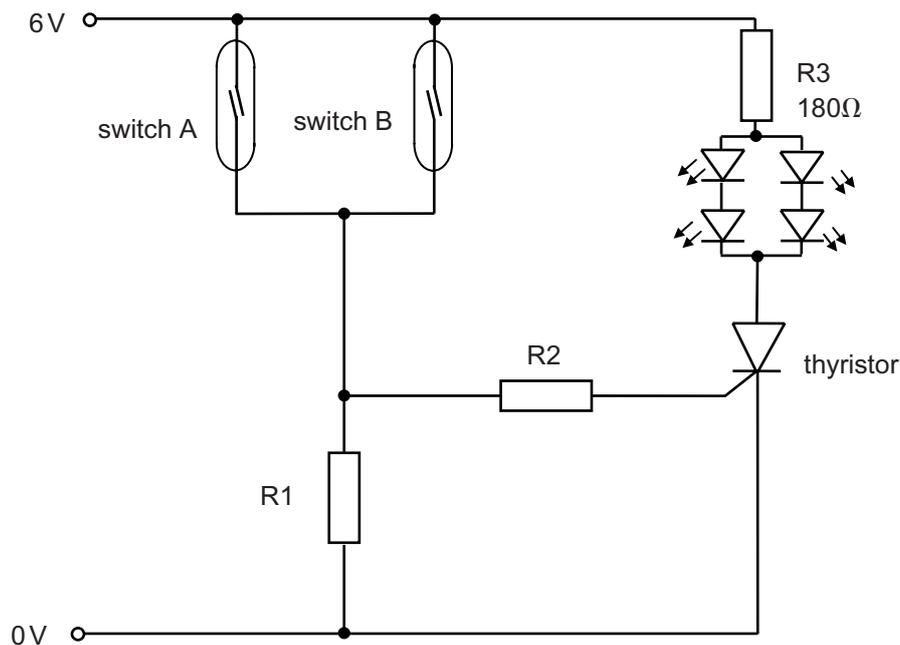

Fig. 9(b)
- (i) State the type of logic control achieved by the arrangement of reed switches in Fig. 9(b). [1]
- (ii) Describe the operation of the circuit shown in Fig. 9(b). [3]